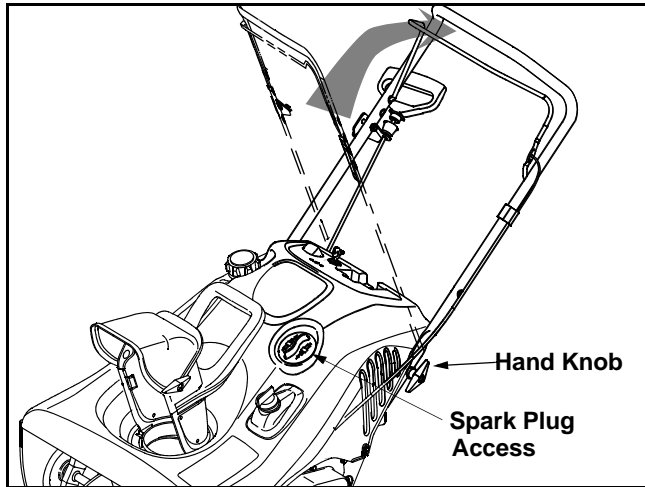

Figure 1
- Raise the upper handle in the direction shown in Figure 1 until it clicks into the operating position. Make sure not to pinch or crimp the cable.